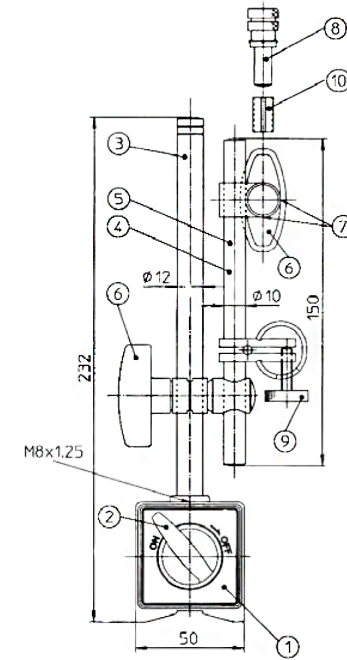

Fig. 1
- Fine adjustment knob for performing precise adjustments to the measuring device's orientation and zero point. (Fig. 1 - 9).
2. Place the magnetic base in a location from which the support rod (Fig. 1 - 5) can be adjusted to bring the measuring device into contact with the surface to be measured, then turn the base ON (left) to fix the magnetic base to surface.